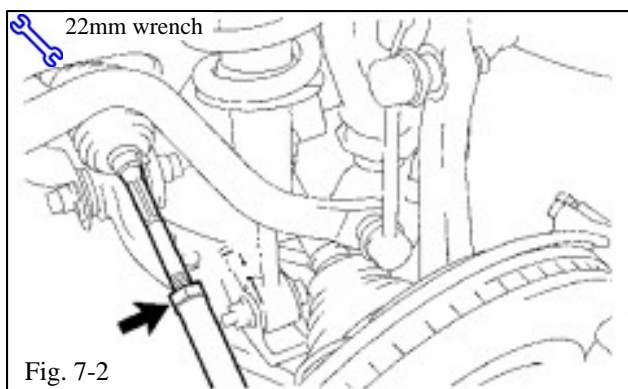

Fig. 7-2
- (i) Loosen tie rod end lock nuts (Fig. 7-2).